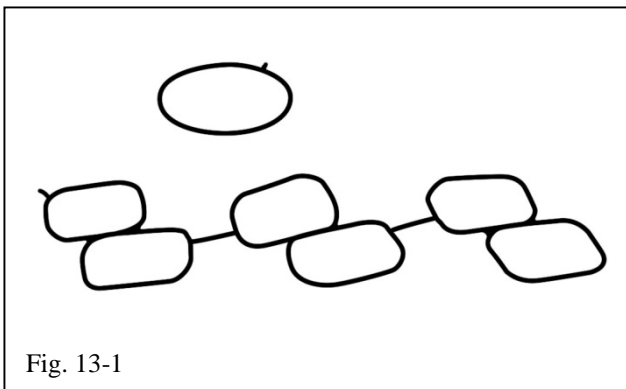

Fig. 13-1
- (a) Remove the intake port gasket and throttle body O-ring from the intake air surge tank (Fig. 13-1). Retain these parts for the next step.